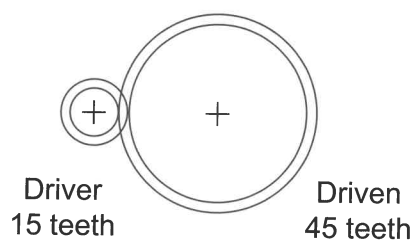

Figure 2
- 6 **Figure 2** shows a gear train. What is the gear ratio of this mechanism?